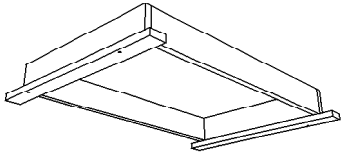
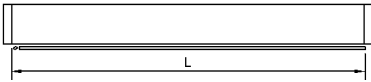

fig 12
fig 13
1. Screw two temporary cleats that are the full width of the opening to the ceiling (figure 12). Fix one cleat at the hinge end protruding 15mm into the opening. The other, at the opening end, must protrude 15mm into the opening also. The distance between these cleats must be $L + 10\text{mm}$ as seen in figure 13.